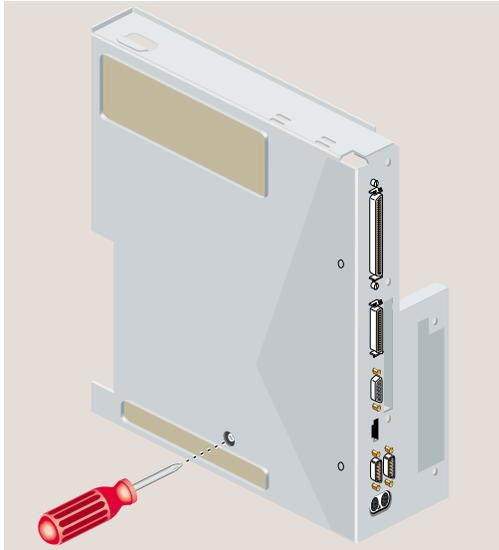

Figure 8 Removing the Bottom Screw from the CPU Support
10. Turn over the system module and use the Phillips screwdriver to remove the third screw securing the CPU support in place (Figure 8).